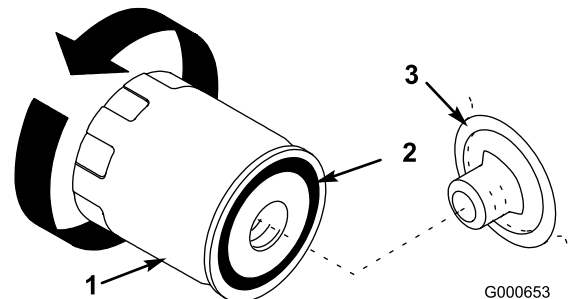

Figure 25
- Remove the old filter and wipe the filter adapter (Figure 25) gasket surface.
- Apply a thin coat of new oil to the rubber gasket on the replacement filter (Figure 25).
- Install the replacement oil filter to the filter adapter. Turn the oil filter clockwise until the rubber gasket contacts the filter adapter, then tighten the filter an additional 1/2 turn (Figure 25).